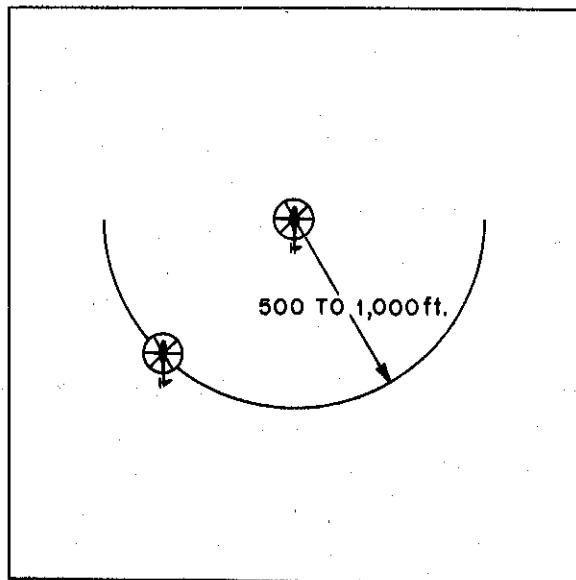

Figure 26-2. Helicopter Two-Ship Tactical Formation.
(2) The A-10 daisy chain can effectively escort a fluid helicopter formation of up to three helicopters or a four-ship helicopter formation composed of two-ship elements each with its own dedicated A-10 aircraft. The recommended formation for the helicopters to fly is a tactical formation left (figure 26-2) with 500 to 1,000 foot spacing between helicopters. The number two helicopter can vary its position to be unpredictable but